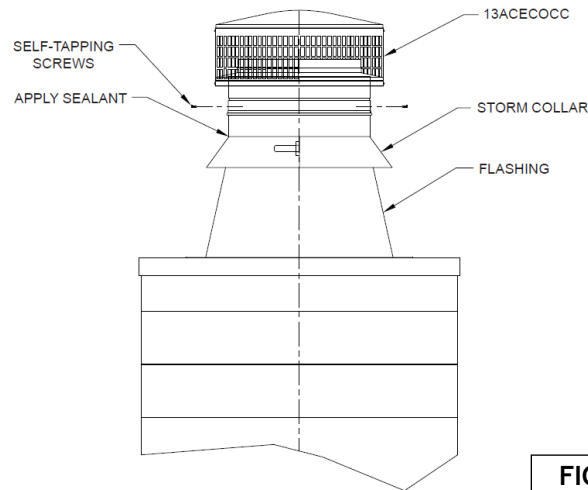

FIGURE 71
10. Attach the storm collar around the chimney above the screen of the flashing. Secure in place with the locking tab and button. Seal around the storm collar with a non-hardening waterproof sealant. Attach the Termination Cap to the chimney by sliding the male to female joint connection together and secure in place with four (4) sheet metal screws provided. **(Figure 71)**